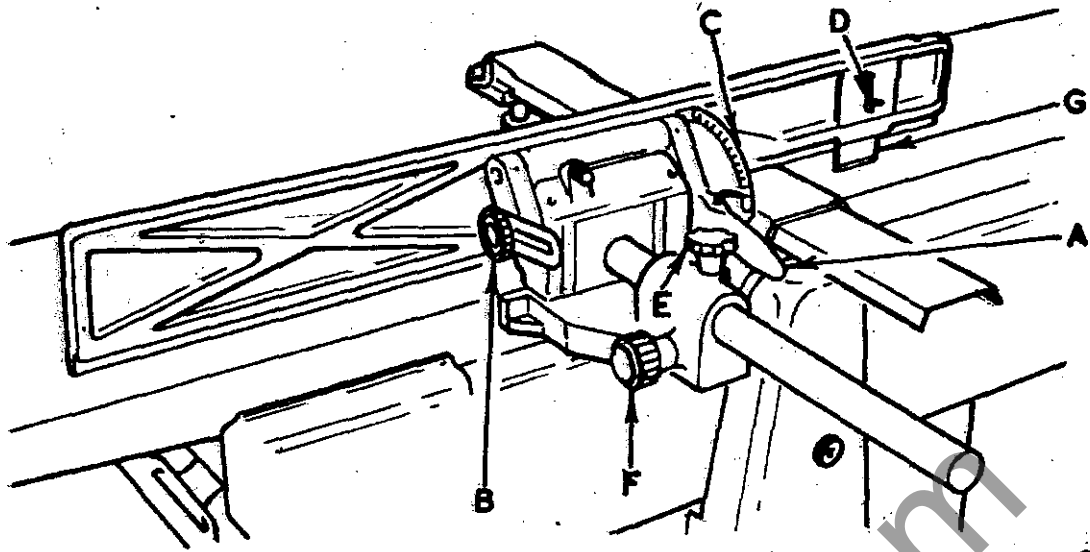

FIG 10.
The fence cants by means of a single lever "A" in Fig. 10 to 45° . The angle to which the fence is canted is shown on a graduated scale "C".
2. Check the 90° positive stops by means of a steel square as shown in Fig. 11. If adjustment is necessary, adjust the hexagon head bolts "A" until the fence is at right angles to the table when hard up against the stops and the handwheel "B", in Fig. 10 locked.
3. Check the 45° positive stop by means of an adjustable square. If adjustment is necessary, adjust the socket head grubscrew "B" until the fence is 45° to the table when hard up against the stop and the handwheel "B" in Fig. 10 locked.